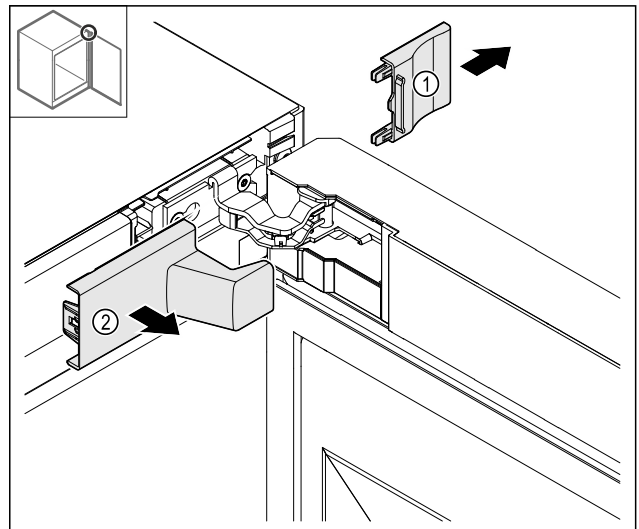

Fig. 8
- ▶ Lift off the cover Fig. 8 (1) and then remove Fig. 8 (2).